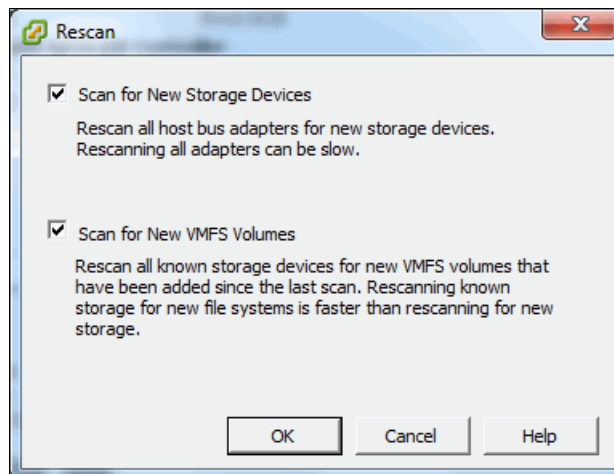

Figure 5-54 Rescan all adapters
3. Click **Rescan all**. The window shown in Figure 5-54 opens. Make sure **Scan for New Storage Devices** is selected. Click **OK** to confirm.